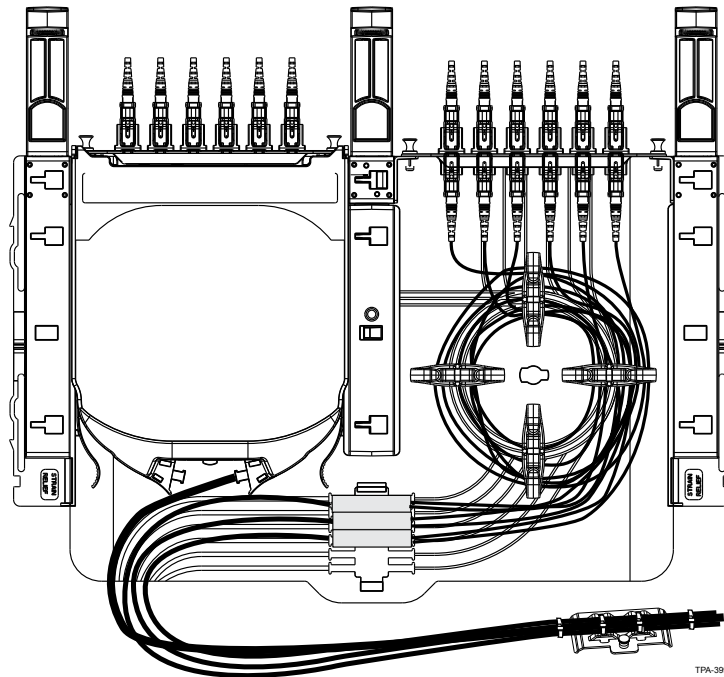

Figure 22
**Step 4:** Install an adapter panel on the right side of the shelf (Figure 22) (as seen from the rear of the housing).
**Step 6:** Install the cassette on the left (Figure 22), either from the front or rear of the housing between the stacker and side wall of shelf until it snaps into place. To remove the cassette, press in on the two tabs and slide the cassette towards either the front or the rear of the housing.